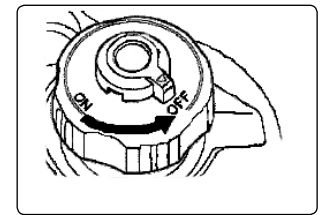

fig.14
6.4.6. Turn the fuel tank cap air vent knob to "OFF" fig.14 after the engine has completely cooled down.